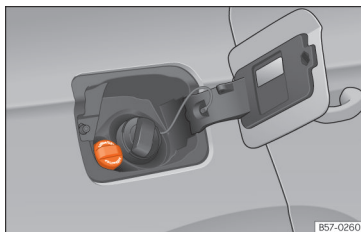

Fig. 277 AdBlue tank cap.
- Open the tank cover » **Fig. 277**.
»» Fig. 277.